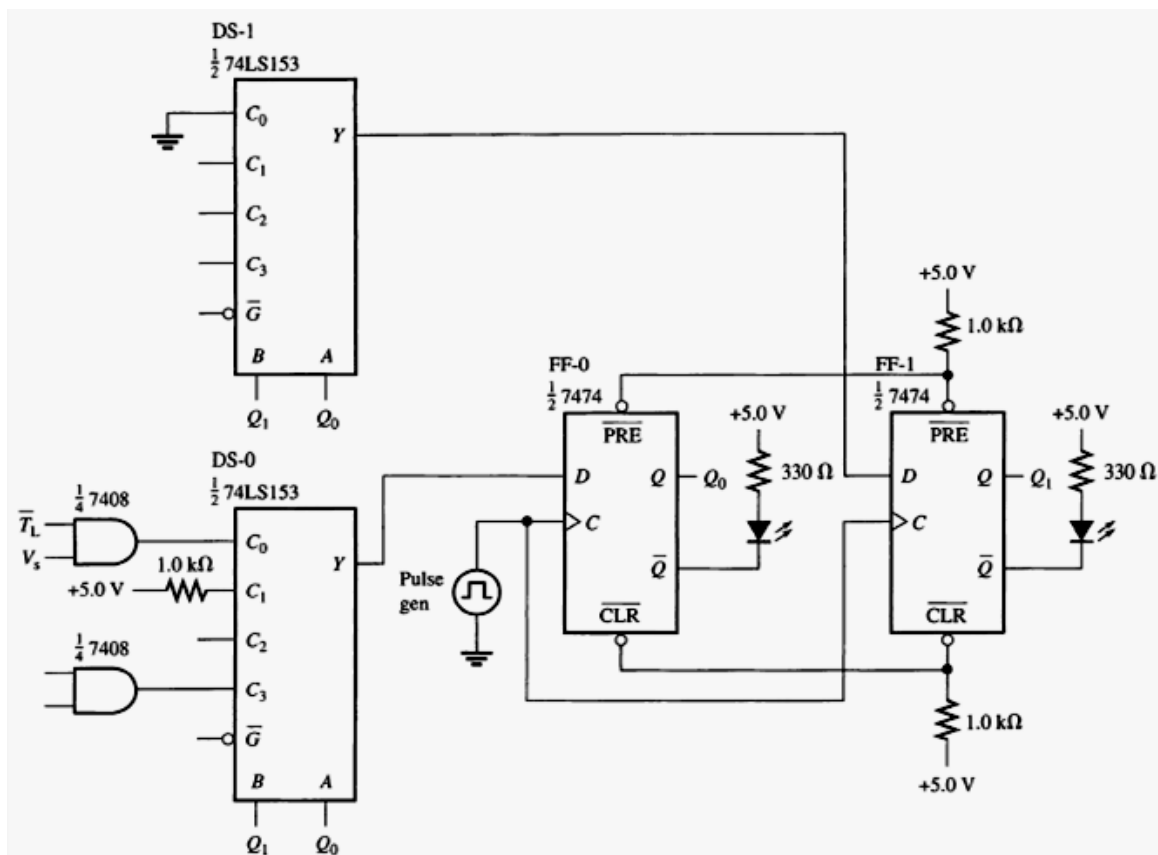

Figure 14.4
- b. From the inputs determined in Step 1, complete the schematic shown in Figure 14.4 of the report. Show the inputs to each data selector and the enable. Note that the select lines of the data selectors are connected to the outputs of the flip-flops.
- d. On the same protoboard as the short timer and the switches representing the long timer and vehicle sensor, add the sequential logic in Figure 14.4. The LEDs serve as state indicators. Connect all inputs in accordance with your design in Step 1. Set the pulse generator to 10 kHz.